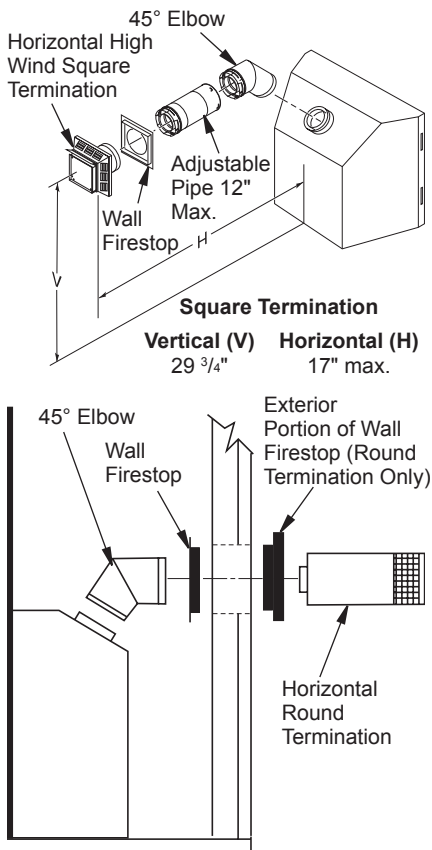

Figure 14 - Horizontal Termination Configuration for Square or Round Termination
IMPORTANT: Horizontal square terminations require only inner portion of wall firestop. Horizontal installations using round termination require exterior portion of wall firestop (see Figure 14, page 11).
1. Set the fireplace in its desired location and determine the route your horizontal venting will take. Do not secure the fireplace until all venting has been installed. Some installations require sliding the fireplace in and out of position to make final venting connections. Figures 14 through 18 on pages 11 through 13 show different configurations for venting with horizontal termination that will help you decide which application best suits your installation. Check to see if wall studs or roof rafters are in the path of your desired venting route. If they are, you may want to adjust the location of the fireplace.
Figures 14 through 18 show different configurations and alternatives for venting with horizontal termination. Each figure includes a chart with critical minimum and maximum dimensions which **MUST** be met. **IMPORTANT:** If using a venting configuration of only horizontal venting with no vertical run, a 1/4" rise for every 12" of run toward the termination is required.